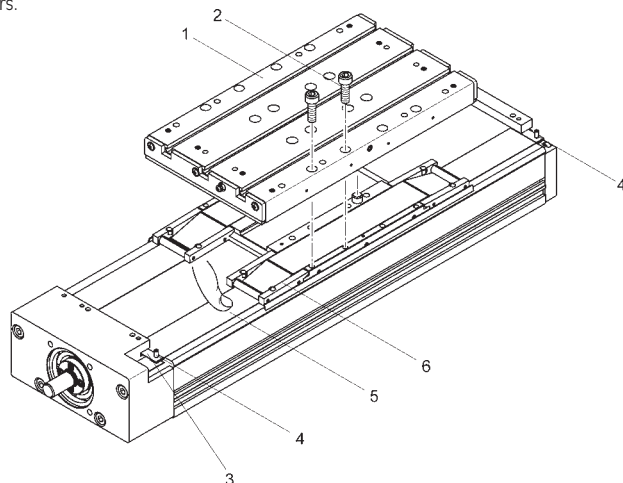

Fig. 12
1. **Fig. 12:** Remove the fastening screws (2) from the power bridge (1) and carefully lift the complete carriage off vertically.